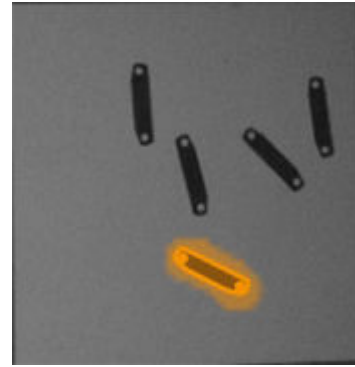

Figure 10: Highlighted part contours
- ✓ When the system locates the part, a "Job configured" message is displayed in the user interface and the part contours are highlighted in the image window. See figure 10.